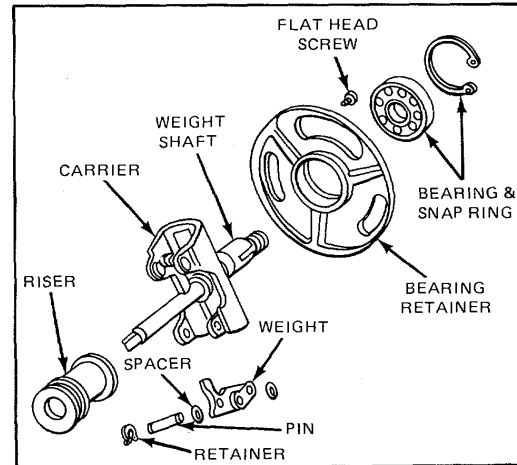

Figure 3. Governor Weight Details and Relative Location of Parts.
2. Remove the small flathead screw (Fig. 3) which holds the bearing retainer in place.
1. Press the bearing (Fig. 3) from the weight shaft.